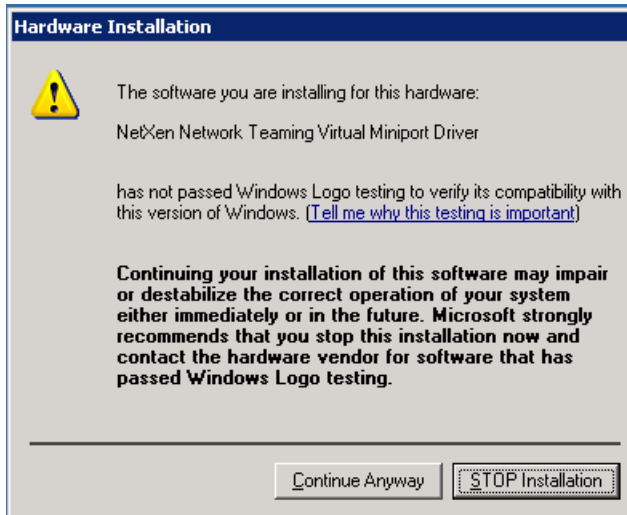

Figure 5-17 Hardware Installation window
5. Click **OK** to accept the default settings and the teaming configuration is created. This can take a few minutes. Click **Continue Anyway** (Figure 5-17 on page 75) if the Microsoft Windows Logo message displays.